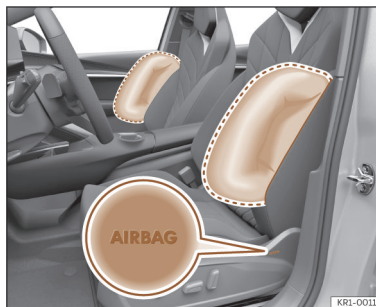
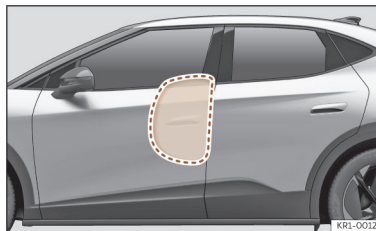

Fig. 31 Driver's seat and passenger seat side airbags.
Fig. 32 Illustration of completely inflated side airbag on left side of vehicle.
The side airbags are located in the front seat backrests >>> **Fig. 31** , >>> **Fig. 32**.
- Ensure that children are correctly seated in their seats and that their heads are not in the deployment zone of the side airbags >>> Fig. 32, as deploying airbags could hit them and cause serious injury.